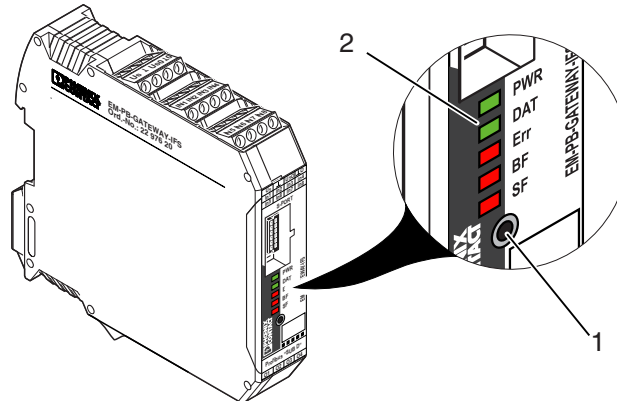

Figure 5-4 Operating and indication elements
1. Press and hold down the button 1 (Figure 5-4 “Operating and indication elements”) for at least six seconds (6 s).
1. Press button 1 (Figure 5-4 “Operating and indication elements”) for 12 seconds (12 s).